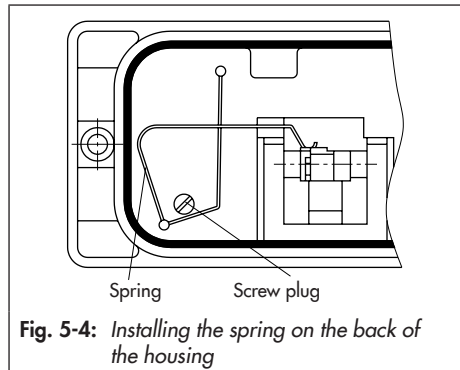

Fig. 5-4: Installing the spring on the back of the housing
- Remove screw plug on the back of the positioner (Fig. 5-4) and seal the side signal pressure output with the stopper included in the accessories.
- Mount the positioner so that the hole in the intermediate plate (15) covers the seal in the hole of the actuator yoke.
ly located in the bracket (11), fix the spring included in the accessories at the back of the positioner housing as illustrated in Fig. 5-4.
1. Place the lever with feeler roll (3) on the side of the lever (5) opposite to where the press nuts are located and secure it using the supplied screws (6) and washers.
2. Attach the spring contained in the accessories kit (order no. 1400-6660) to the back of the positioner housing (see Fig. 5-4).